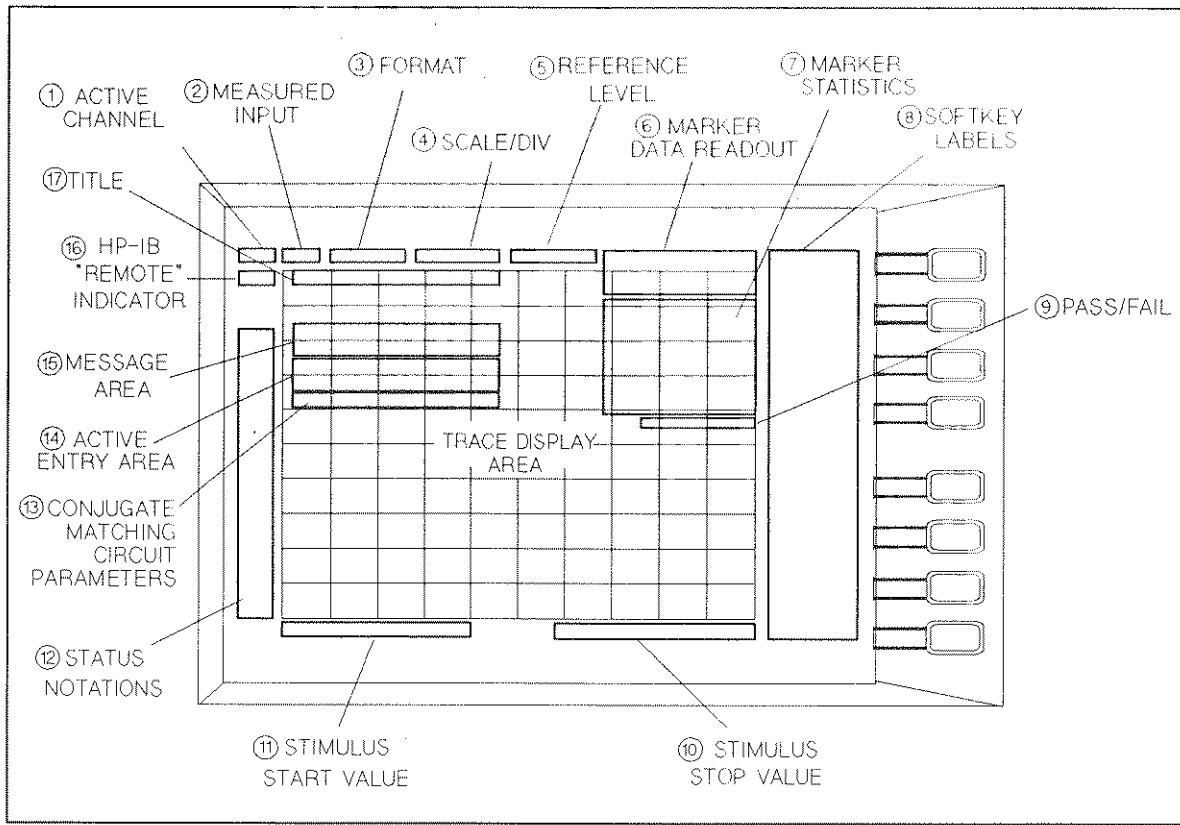

Figure 2-2. CRT Display (Single Channel, Cartesian Format)
2. *CRT display*. This is used for display of data traces, measurement annotation, softkey labels, and other information. The display is divided into specific information areas, illustrated in Figure 2-2.
The CRT displays the grid on which the measurement data is plotted, the currently selected measurement traces, and other information describing the measurement. Figure 2-2 illustrates the locations of the different CRT information labels, described below.
In addition to the full-screen display shown in Figure 2-2, a split display is available, as described under “**DISPLAY** KEY” in Chapter 6. In this case, information labels are provided for each half of the display.